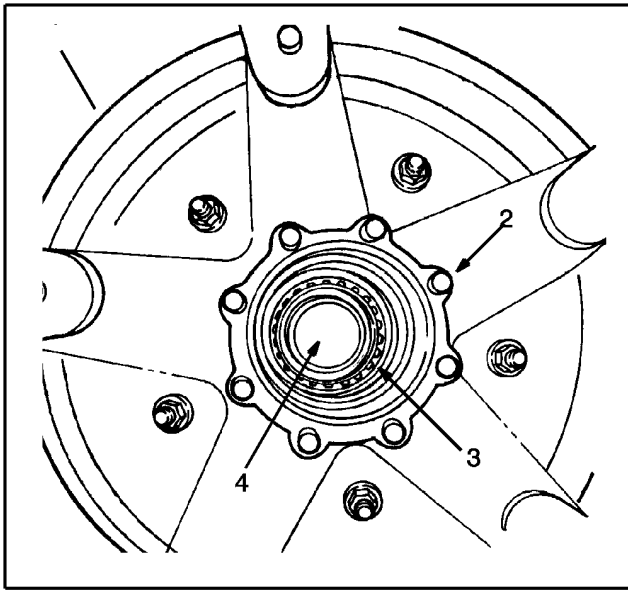

Figure 30 Head-on View of Installing Wheel (Hub) Assembly Using a Wheel Dolly
3. Use a wheel dolly to place the wheel/hub assembly on the axle tube spindle. Care must be taken so that the seal is not damaged when sliding hub assembly onto spindle (Figure 30).